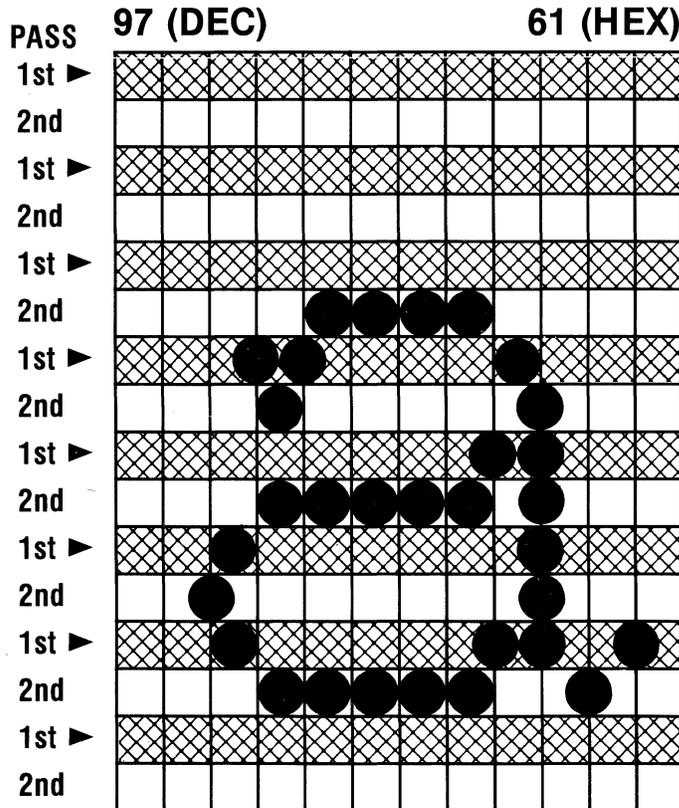

Figure D-3 NLQ Character “a”
**RESIDENT NLQ SET** — Refer to Figure D-3. The vertical printing consists of two passes of eight pins each, the total vertical size being  $8\frac{1}{3}$  dots maximum. There are no descender data for this set, thus the 9th pin is not used to print NLQ characters. The 9th pin is used only to underline in a separate (3rd) pass. This underline clears the (8th-pin) descenders, because there is a one-dot paper feed followed by the underline printed in the “10th” pin position.
Figure D-3 shows each dot isolated from the others for clarity. The actual printed character is much more fully-formed than the illustration. In the horizontal plane, dots shown adjacent to each other actually overlap at  $\frac{1}{2}$ -dot centers. In the vertical plane, dots in the second pass actually are only  $\frac{1}{3}$  dot lower than the first pass rather than a whole dot as shown.